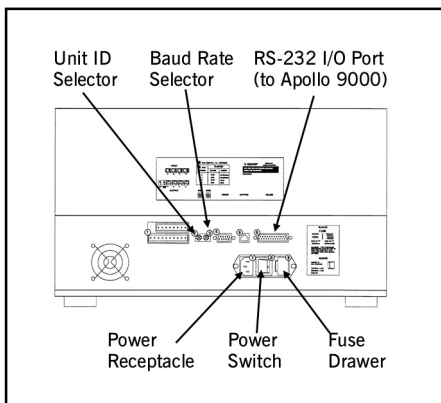

Figure 2.6.2 Autosampler Rear Panel
4. Insert the fuse drawer into its receptacle in the back of the unit (see Figure 2.6.2).
The RS-232 interface cable transfers information between the autosampler and Apollo 9000 (see Figure 2.6.2).
1. Gently insert a small, slotted screwdriver into the SW2 selector (see Figure 2.6.2) on the rear panel of the autosampler and turn gently.